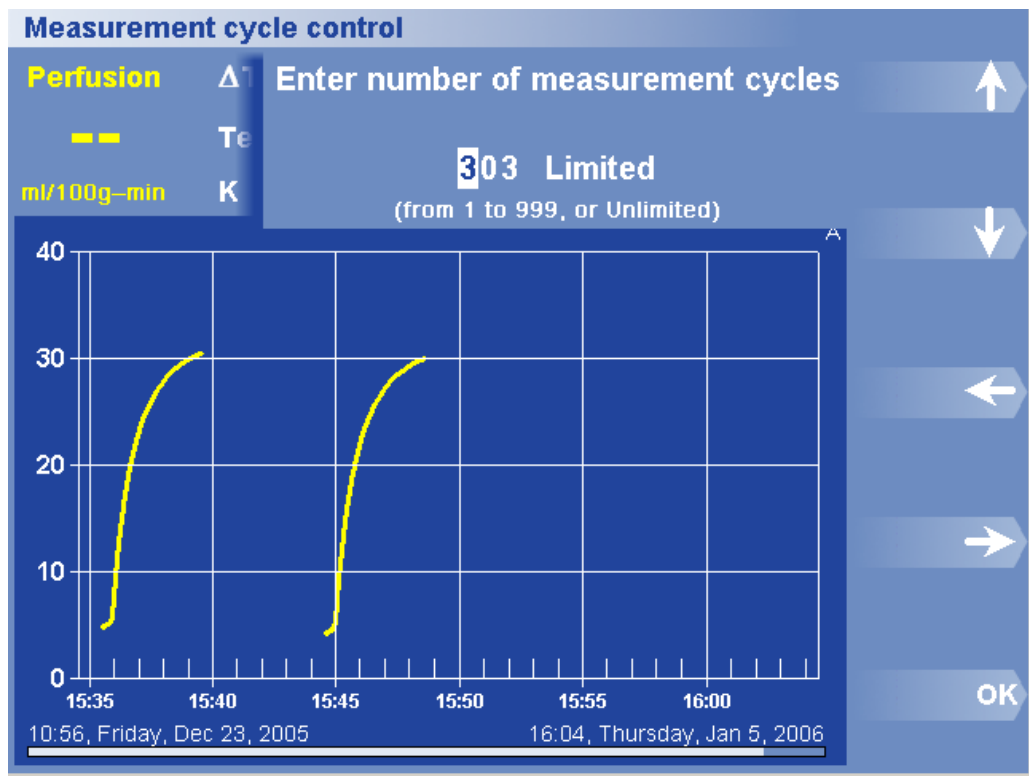

Figure 39. Number of Cycles Dialog Box and Menu
2. Press Number of Cycles. The Number of Cycles dialog box appears (Figure 39).